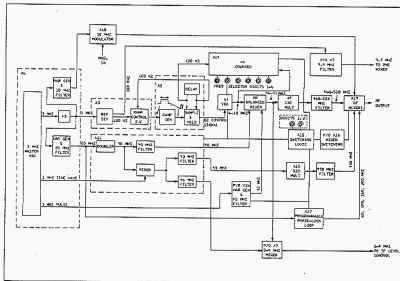

Figure 4-1. Frequency Synthesizer, Simplified Block Diagram
4.17 Figure 4-1 is a simplified block diagram of the frequency synthesizer. The loop is shown in the phase-locked condition and therefore the +N output is represented as being 100 Hz.